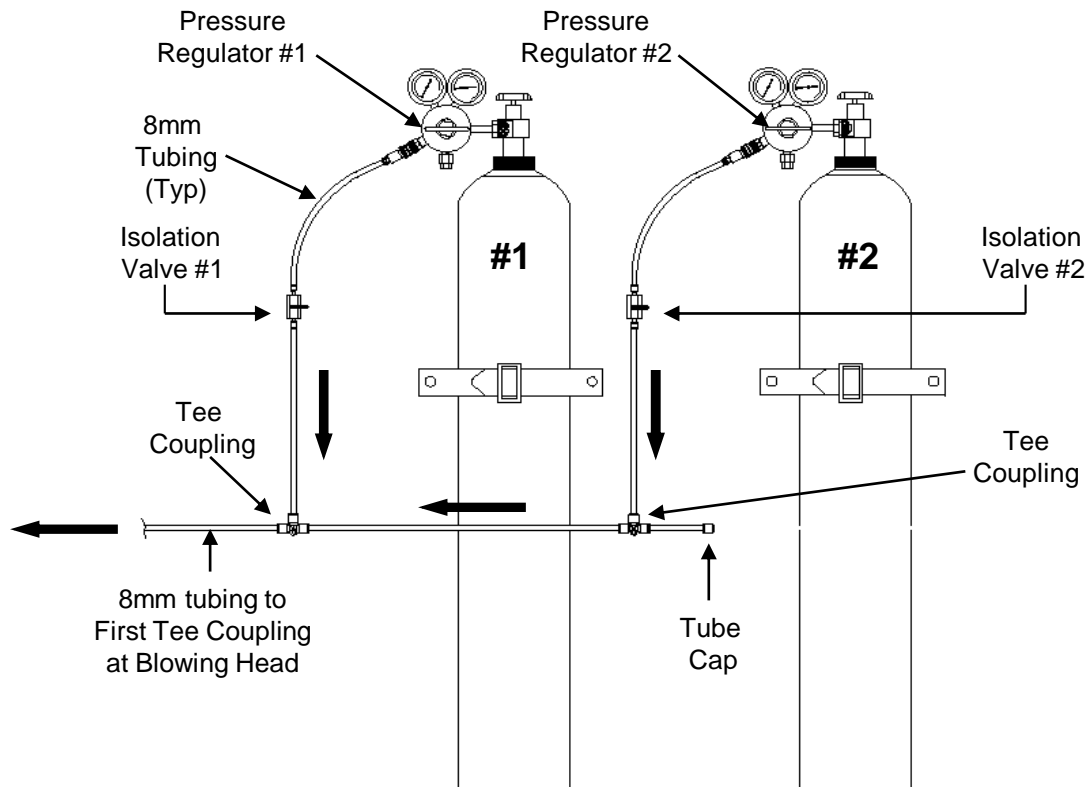

Figure 31
12.7 Push-fit Installer-provided lengths of 8mm tubing between Pressure Regulator #1 and #2 8mm Tubing Adapters and the Tee Couplings supplied in the Dual Tank Isolation Valve Kit. (3' - 4' length suggested.) **See Fig. 31.**
12.8 Push-fit Installer-provided length of 8mm tubing between the Tee Couplings supplied in Dual Tank Isolation Valve Kit. (1' - 2' length suggested.) **See Fig. 31.**
12.9 Push-fit Installer-provided length of 8mm tubing between Bottle #2 Tee Coupling and Tube Cap supplied in Dual-Tank Isolation Valve Kit. (3" - 4" suggested.) **See Fig. 31.**
12.10 Push-fit Installer-provided length of 8mm tubing between Bottle #1 Tee Coupling and the First Tee Coupling at the Blowing Head. (3' - 4' length suggested.) **See Fig. 31.**
Tip: It is best to set up Dual Tank equipment in configuration / arrangement as shown in **Fig. 31**. Excess tubing lengths are not desired. Keep things organized to improve access to both Isolation Valves later.